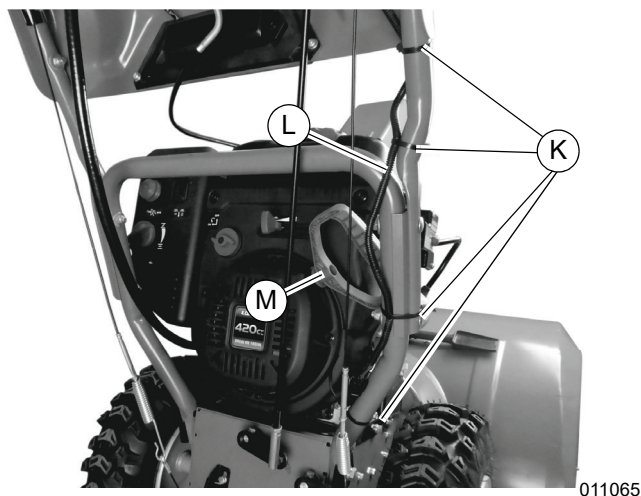

Figure 2-18. Install Cable Ties
20. See **Figure 2-18**. Install cable ties (K) to secure wire harness (L) to handlebar. Verify cables are not on top of handlebar, where they can interfere with starter pull cord (M). Wear eye protection when cutting excess ends of cable ties using wire cutters.